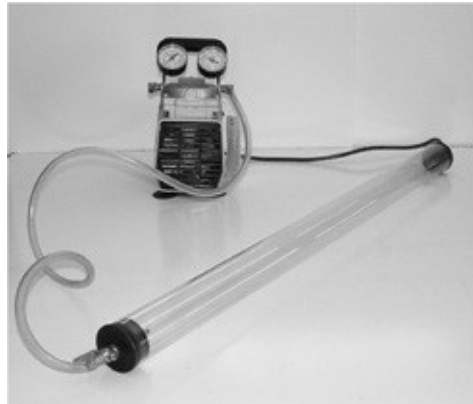

Figure 18-1 *Clear plastic tube attached to vacuum pump.*
4. Attach the vacuum pump to the tube and evacuate the air from inside the tube, as shown in Figure 18-1.